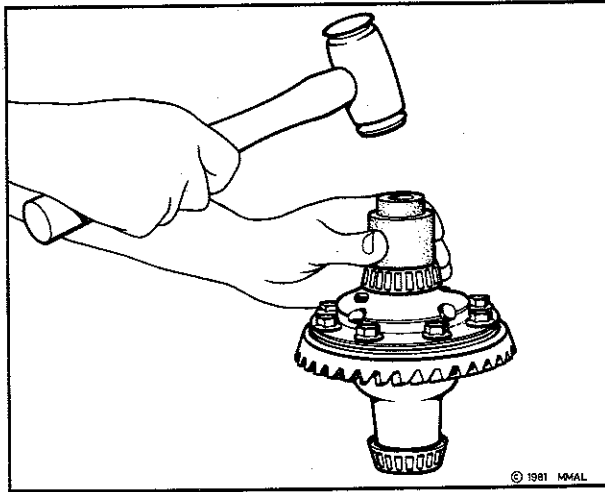

Fig. 25—Installing differential side bearings
(1) Install thrust washers on the differential side gears and position gears in each housing half.
(2) Place thrust washers on both pinion gears and mesh the pinion gears with the side gear, having the pinion gears exactly 180° apart, positioned in the drive gear housing half.
(3) Align the pinion gears and washers with the shaft holes in the housing.
(4) Install pinion gear shaft with care, not to damage thrust washers and to have hole in shaft aligned with lock pin hole in housing.
(5) Install a new lock pin in drive gear side of housing half, carefully positioning the housing on to the smaller housing, engage the lock pin in the pin bore, then carefully press halves together.
(6) Position the drive gear on the housing to separate the points of maximum runout 180° and start all bolts through the housing into the drive gear, finger tight.
(7) Tighten the bolts to the specified torque in two stages and in a criss-cross fashion.
(8) Install differential side bearings, refer Fig. 25.